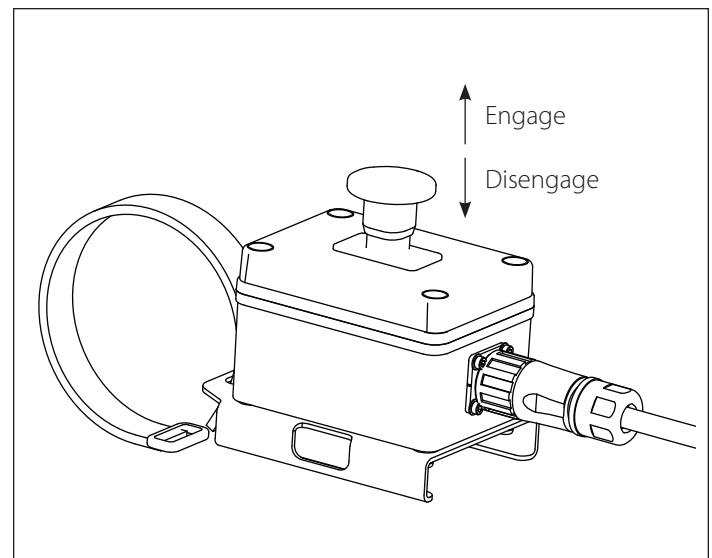

Figure 9
2. Make sure the blade clutch switch is in the DISENGAGED position. *See Figure 9*
2. Engage the cutter blades by pulling the blade clutch switch up/out on the control box. *See Figure 9*
3. Disengage the cutter blades by pushing the blade clutch switch down/in on the control box. *See Figure 9*